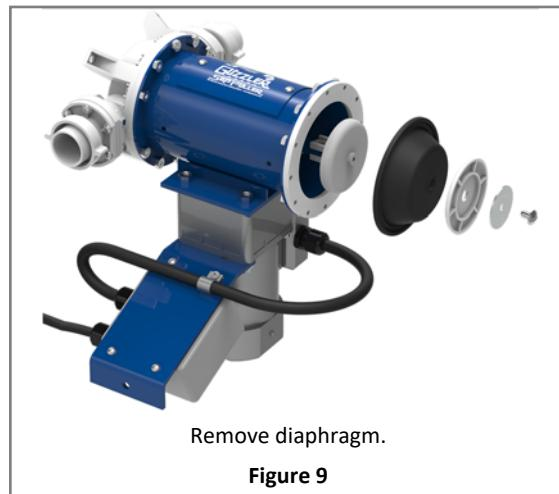

Figure 9
6. Pull the diaphragm out to its maximum travel. Remove the slotted head screw, washer, button and diaphragm from the plastic clevis. (Figure 9)